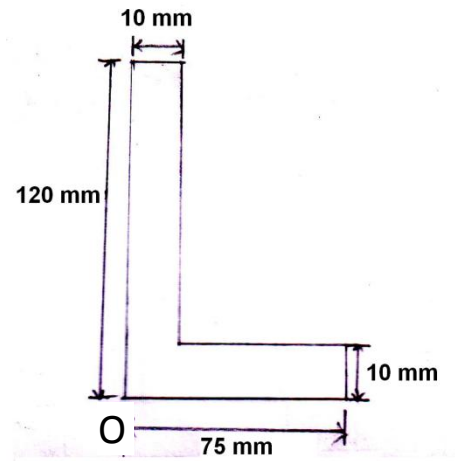

Fig. 12
Q.14	(a) Locate the centroid of angle section as shown in fig. 12 about point 'O'. (b) For an angle section shown in fig. 12 , Calculate the moment of inertia about both centroidal axes.